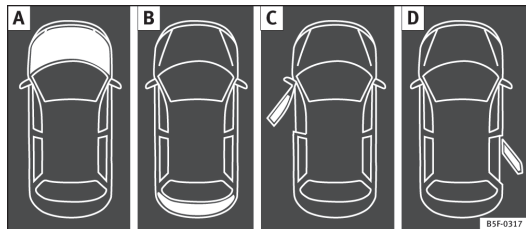

Fig. 39 A: bonnet open; B: rear lid open; C: front left door open; D: rear right door open (5-door vehicles only).
- Bonnet, rear lid and doors open ⇒ Fig. 39.